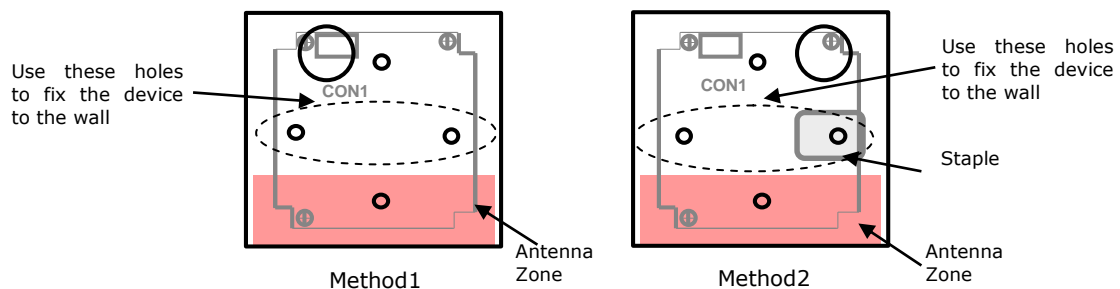
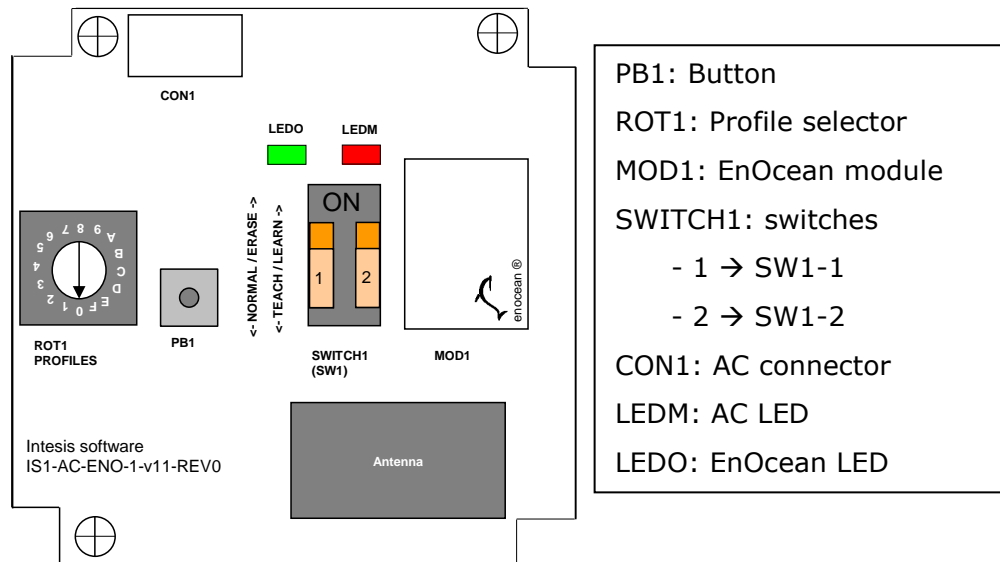

Figure 2.2 Connection methods
Figure 3.1 Device diagram
To connect the device to the AC, the recommended methods are the ones in Figure 2.2
- Method1: The lid hole is place above CON1 (Figure 2.2 or Figure 3.1)
Important: The cable should not be placed on top or the antenna zone (area marked in Figure 2.2) as the performance of the device might be affected. For this same reason never use a metallic screw in the subjection hole on top of this antenna zone.
The DK-AC-ENO-1 / 1C (Figure 3.1) has two switches, a button and a profile selector to execute the Learning and Teach-in procedures from the EnOcean technology (explained in Table 3.1 and the following sections)
To **execute** the **Learning** procedure the next steps need to be followed. References to device components refer to Figure 3.1:
Table 3.4 Signals linked to ROT1 (Figure 3.1)
To delete one or all the devices linked in one reception profile (Table 3.2) the device needs to be in ERASING mode. To do so follow the following lines (the references to device components are specified in Figure 3.1):
A device can break down or be lost, and therefore the above mentioned delete procedure would not be possible to be executed. For that reason all the devices in one profile can be deleted. To do so follow the instructions (the references to device components are specified in Figure 3.1):